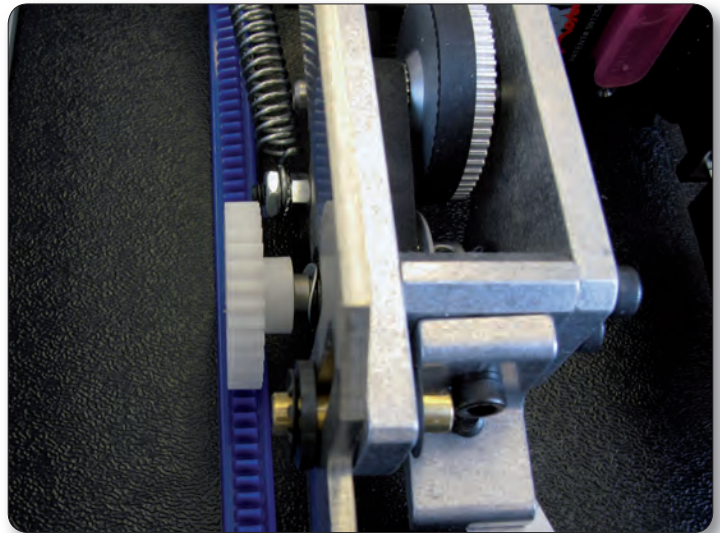

Figure 4
5. Make adjustments to the placement of the blue rack as necessary to align the blue rack with the front white gear on the HQ Pro-Stitcher carriage (Figure 4).